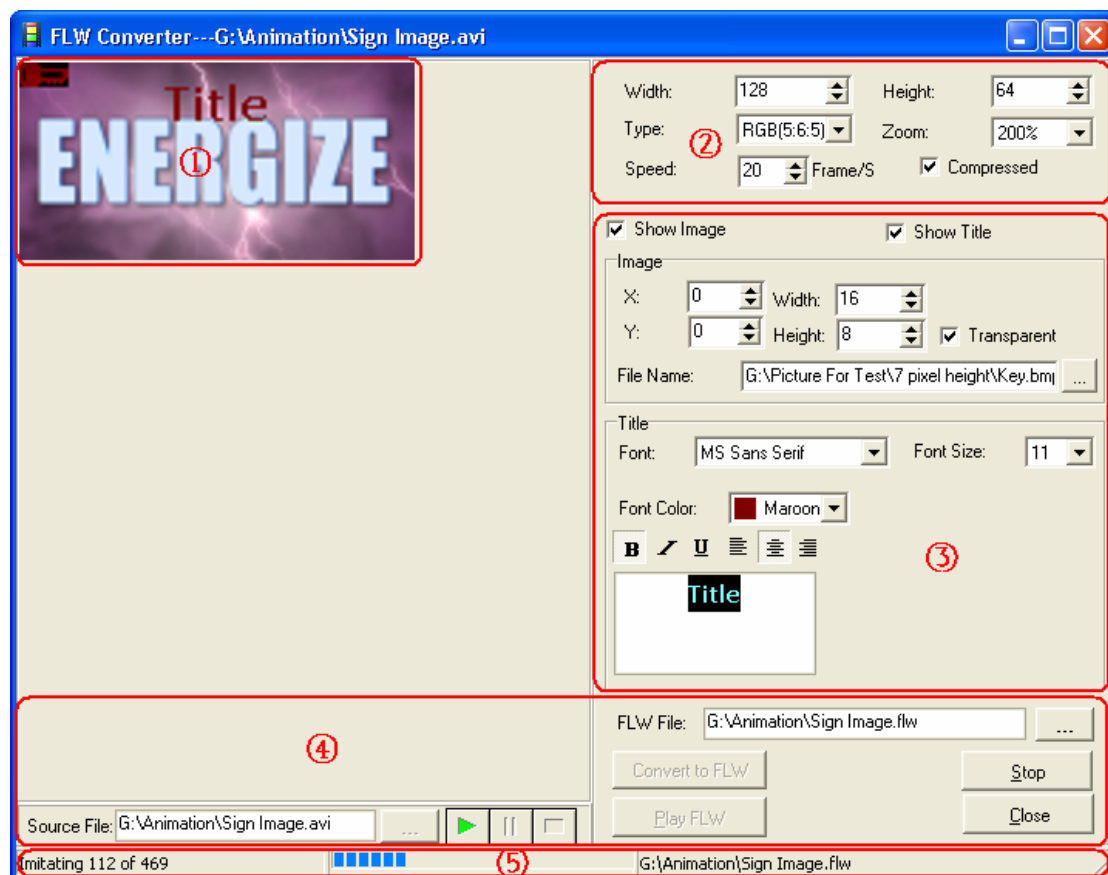

Fig. 5.39 Interface of converting AVI to FLW
As Fig. 5.39 shows, it is the tool interface of converting AVI to FLW. ① is the preview window of Animation files. ② is the converting ratio setting window of Animation files. ③ is the decoration setting window of Animation files. ④ is the control setting window of Animation files. ⑤ is the Status bar. We will introduce the functions as follows:
⑤ Status bar: Status bar is to show the current working status. From Fig.5.39, we can see that there are 469 frames animation pictures are being converted and now it is converting the 112th frame. The column beside tells the finish percent of the process. The last column is the saving path and the saving name of the FLW file.